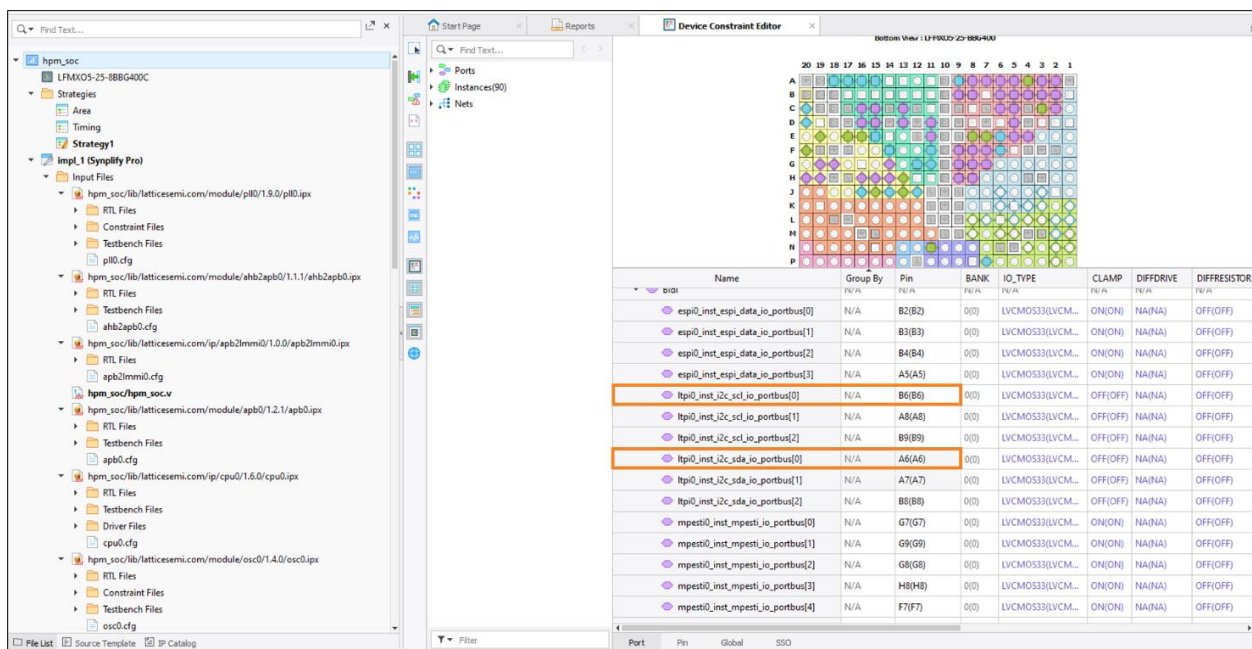
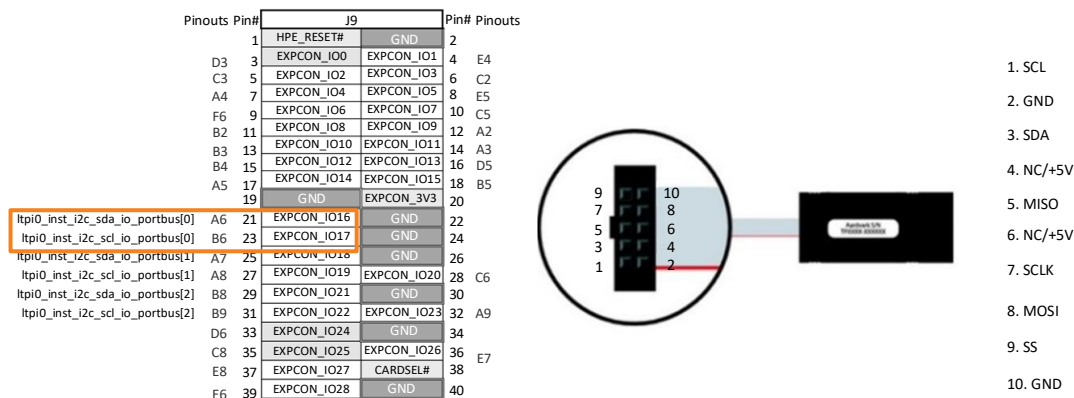

Figure 5.15. HPM Project Design Spreadsheet
Figure 5.16. MachXO5-NX Development Board and Aardvark Pinouts
2. Use I2C bus 0 (pins B6, A6) for the HPM side (Figure 5.15 and Figure 5.16).